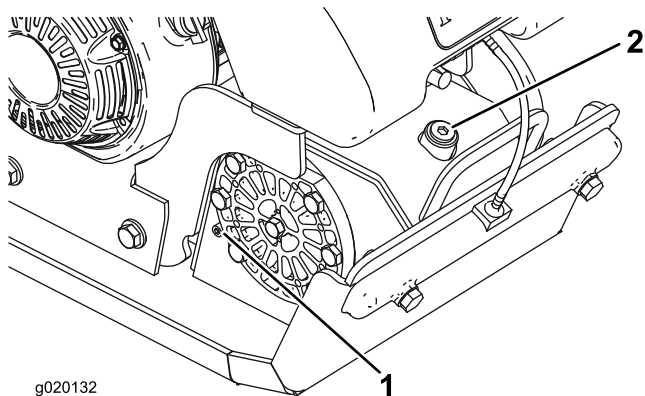

Figure 20
- Place a drain pan under the oil plug and remove the oil plug screw on the side of the eccentric housing (Figure 20).
2. Place an oil drain pan under the oil plug and remove the fill plug and the oil plug screw (Figure 20). Place an oil drain pan under the oil plug.
3. Tip the plate compactor forward slightly and use a suction gun to remove the oil through the filler hole (Figure 20).
4. Slowly pour oil into the filler hole until the oil comes out the oil plug (Figure 20).